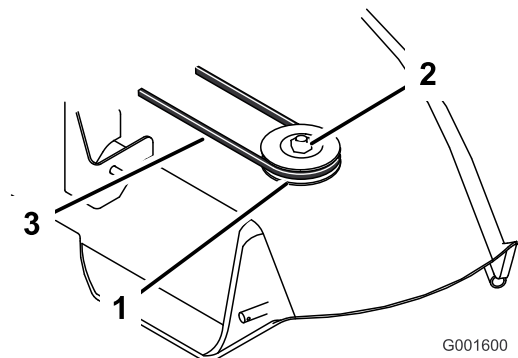

Figure 32
3. Slide the single pulley onto the spindle shaft. Secure with previously removed lock washer and nut (Figure 32).
5. Install the existing mower belt by rotating it onto the pulley (Figure 32).